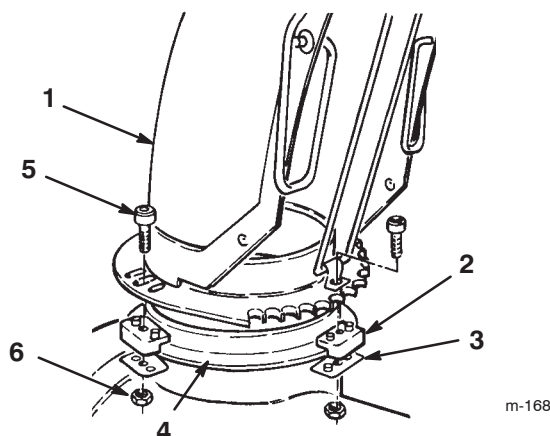

Figure 1
1. Remove the chute assembly by removing the chute retainers, chute retainer plates, screws, and locknuts (Fig. 1).